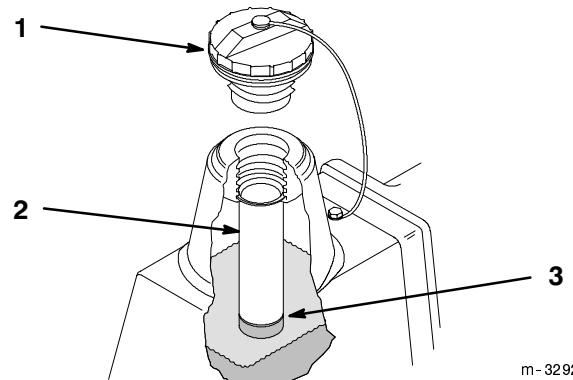

Figure 78
2. Clean area around filler neck of hydraulic tank (Fig. 78).
3. Remove cap from filler neck and look inside to check fluid level. Fluid level should be above the bottom of the screen (Fig. 78).
4. If level is low, add fluid to raise level to above the bottom of the screen (Fig. 78).